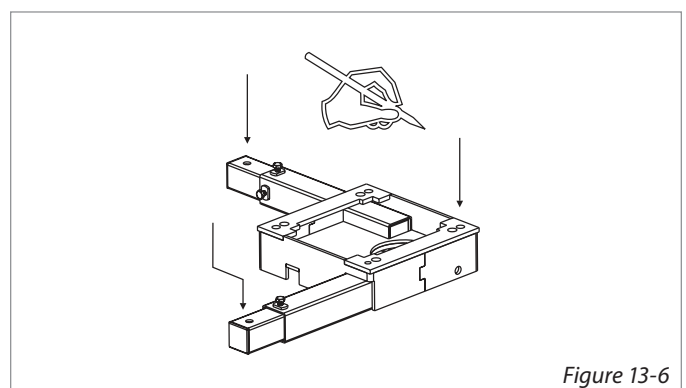

Figure 13-6
- 5. Verify that each of the measurements allows full range of motion** within the cargo area and the opening, mark the three locations to drill. [Figure 13-6]